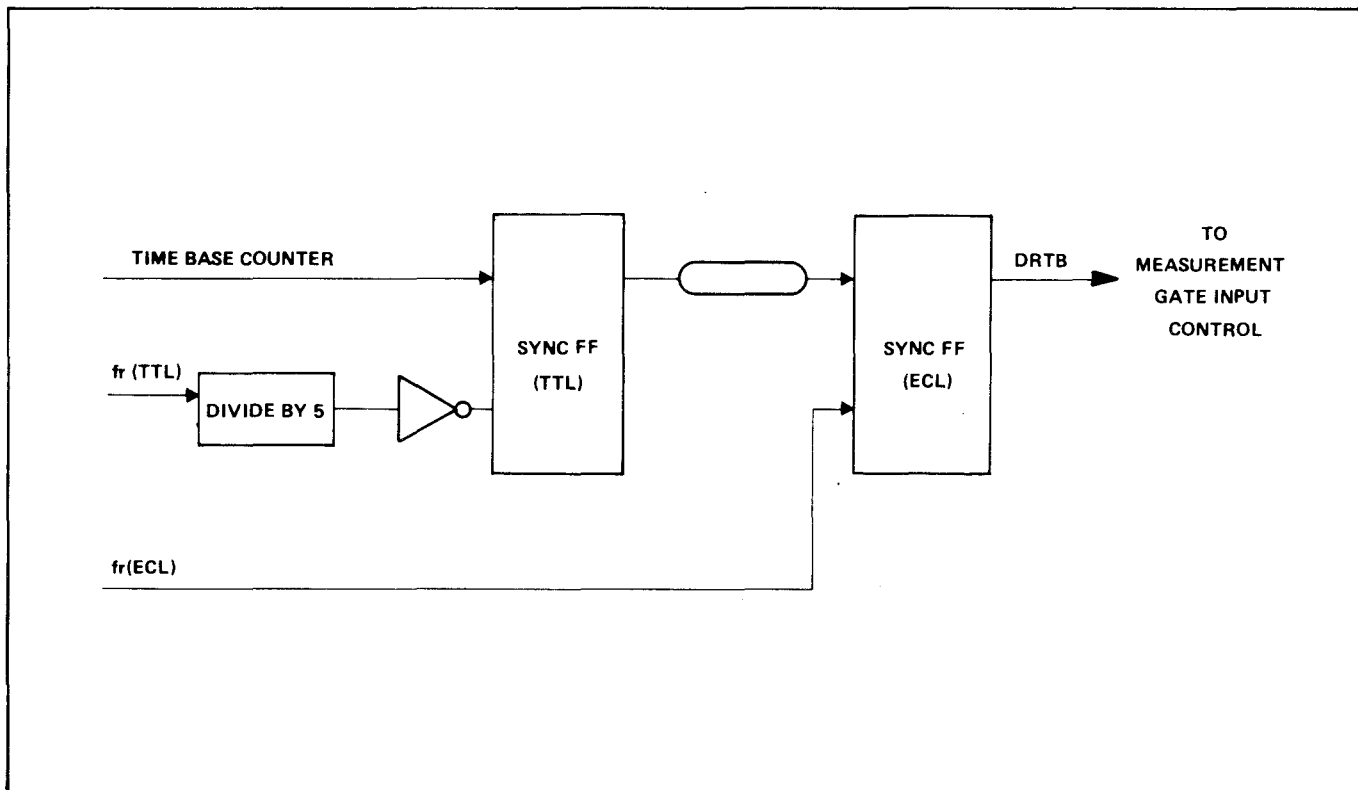

Figure 1.22 - Timebase Synchronizing
1.4.9.8.1 The timebase signal is reclocked and synchronized with the 10 MHz reference signal to eliminate the uncertainties caused by propagation delays in the frequency measurement mode. In the worst case, the reference frequency is divided down from 10 MHz to 0.1 Hz in the timebase counters. The edge of each low frequency square wave can be within the uncertainty caused by the propagation delays in each gate of the divide-by-10-million chain. The maximum uncertainty allowed in order to stay within a  $\pm 1$  count roll-around is equal to less than one period of the maximum frequency to be measured which is 500 MHz. The reclocking method is diagrammed in figure 1.22.